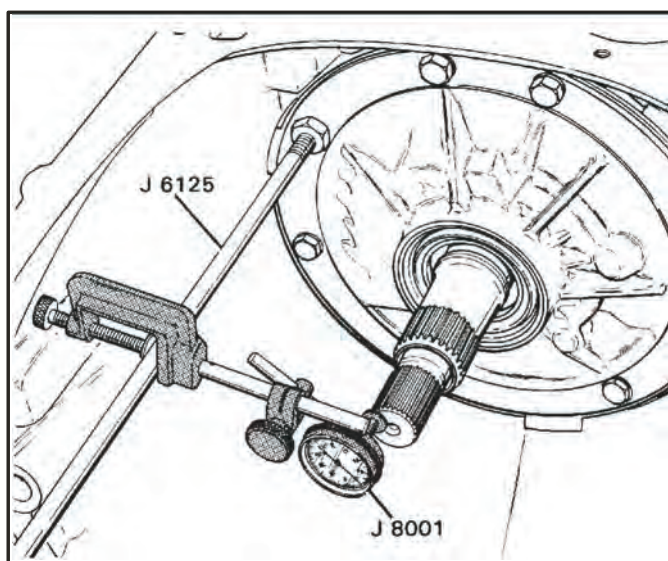

Figure 114
22. Install J-6125 slide hammer bolt in place of the pump bolt as shown in Figure 114.
23. Install dial indicator on the bolt and index it to the end of the turbine shaft (See Figure 114).
29. Install dial indicator on the bolt and index it to the end of the output shaft (See Figure 114).